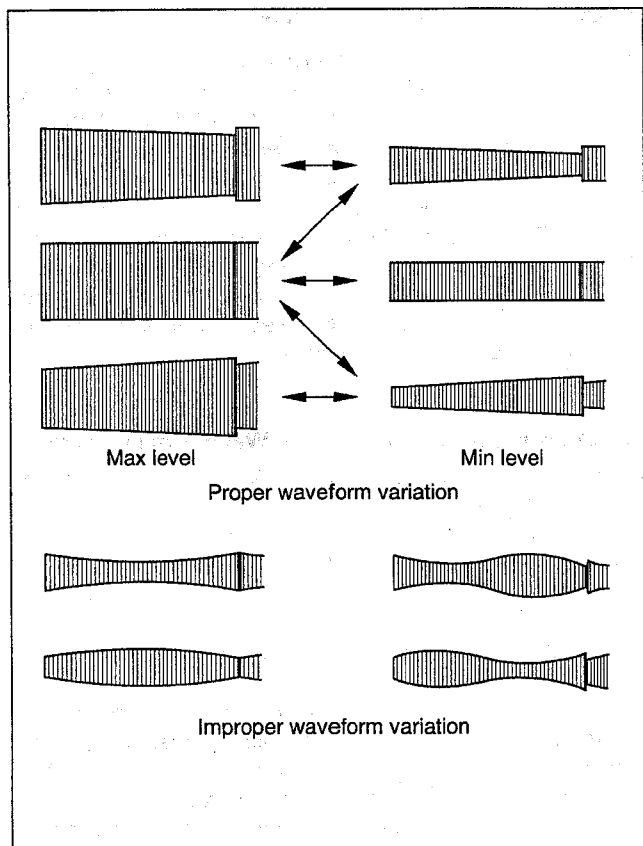

Fig. 2-4-1
- (1) Connect the oscilloscope to TP106(PB FM/COL) of the main board assembly and to TP111(D.F.F) of the main board assembly for external sync connection.
- (2) Playing the alignment tape MHP, observe the FM waveform.
- (3) Press the channel buttons (+) and (-) buttons simultaneously during playback to enter the manual tracking mode (This also brings tracking to the center.)
- (4) Make sure that there is no significant level drop of the FM waveform caused by the tracking operation, with its generally parallel and linear variation ensured. Perform the following adjustments when required. (Fig.2-4-1)